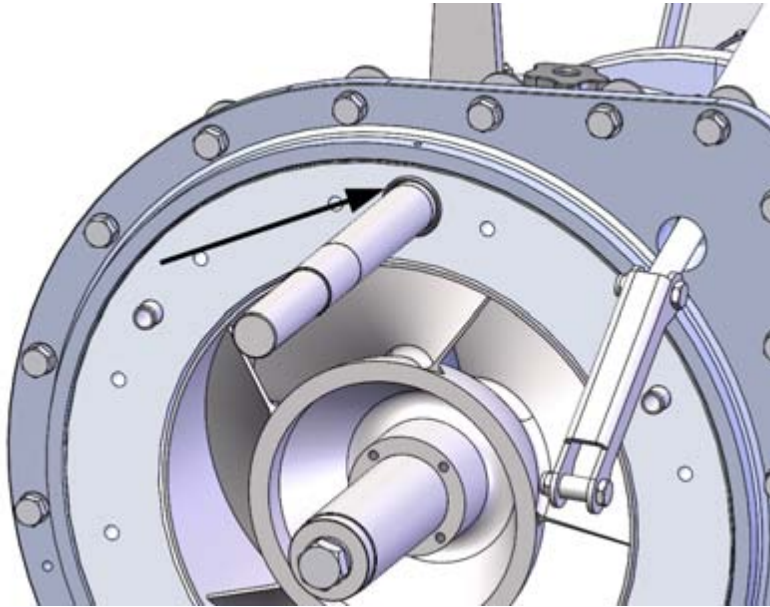

Figure 71. O-ring
5. Install the new o-ring (figure 71) onto the shaft.